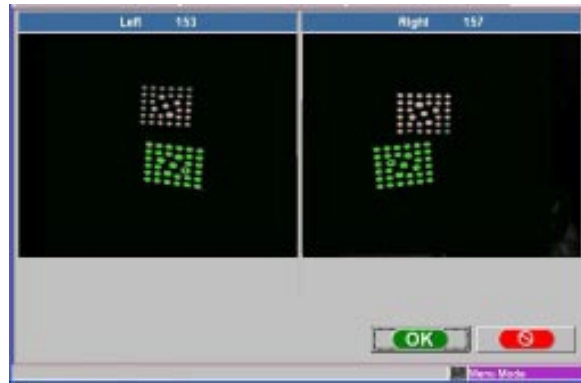

Figure 19
3. Set the rear targets as far back on the lift as is reasonable (Figure 19). Make sure they are equal distance from the lift centerline and the target clamps are square to the lift. The clamps should be spread equal distances and the rear targets should be equal distances from the front targets. Raise the lift to the user preferred alignment height. (Same value as used for calculating camera offset in the installation worksheet)
4. Navigate to the “Camera View” screen under the Maintenance Tab, see Figure 19.
5. Adjust the camera beam up or down so that the camera view distance from the top of the rear target to the top of the view window is the same as the distance from the bottom of the front target to the bottom of the view screen (Figure 19).
Camera beam movement is available from anywhere in the aligner software. In addition, a new shortcut key has been added to access camera view. Simply pressing the <→> key on the upper right of the number keypad will access the camera view screen. See *Figure 19*.